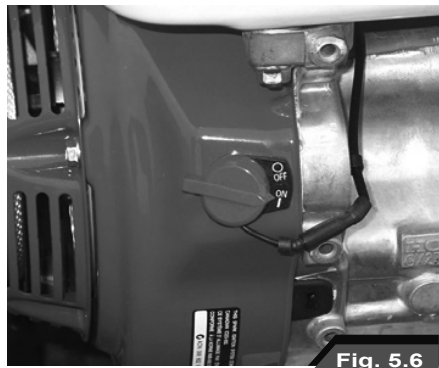

Fig. 5.6
- Set the engine ON/OFF switch on **ON** (Fig. 5.6).
- Hold the vehicle engine handle (15), pull it delicately in such a way to favour the linking up of the ratchet. Successively, give an energetic tug, if necessary put your foot on the wheel in order to be able to exercise more strength. Repeat this manoeuvre by giving short and decisive tugs until the engine starts.
- **Positions the ON/OFF switch on OFF (Fig. 5.6) when you want to turn the engine off, the engine will stop in a few moments.**